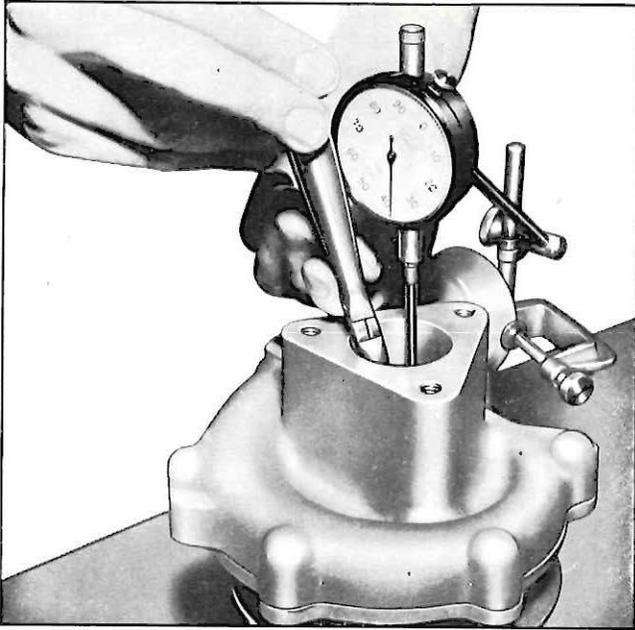

Fig. 29—Gauging Impeller-to-Housing Clearance
- b. Install gasket and compressor housing in place on bearing housing and install every other bolt (3). Torque the bolts to 80 inch lbs.
- c. Position a dial indicator as shown in Figure 29 with indicator point resting on impeller hub and set at zero.